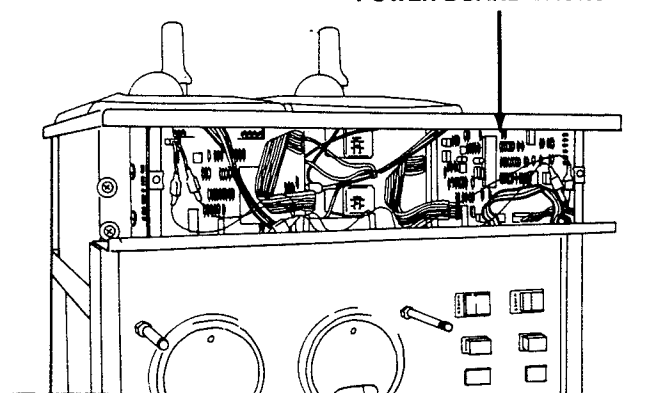

Figure 47. Control Box
2. Remove the two Phillips head screws from the inside cover, allowing the entire box to be accessed. (Fig. 47).